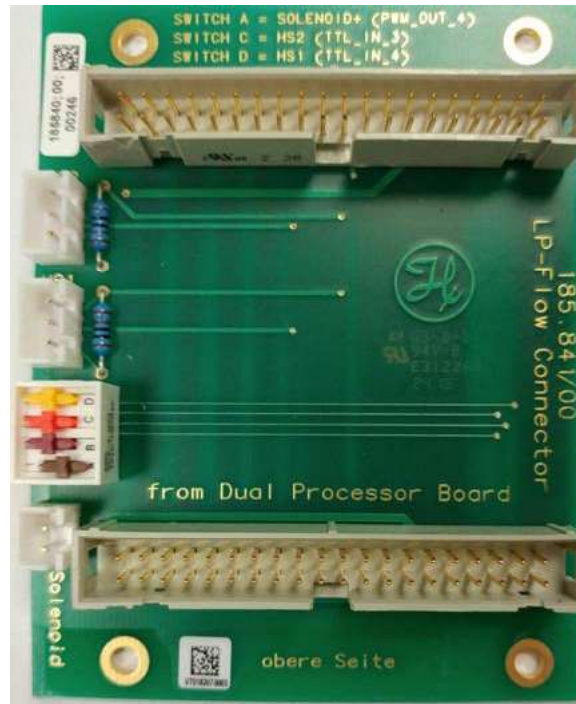

Figure 2-4: Setting the PCB DIP switches
3. Set the DIP switches on the flow connector board as shown in Figure 2-4. Note that switch B is not used.